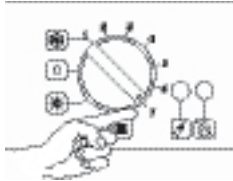

Figure 15.7
- Turn the boiler ON positioning the function selector C in the position shown in figure 15.7 and ensure that the room thermostat is set to “heat demand”.
- Watch the gauge and check to see if the ignition pressure registered corresponds to the values given in the Technical Data. Turn off the boiler and reignite it by turning the function selector B to the 0 position and then back to that indicated in figure 15.7.
- Turn the boiler ON positioning the function selector B in the position shown in figure 15.7 and ensure that the room thermostat is set to “heat demand”.